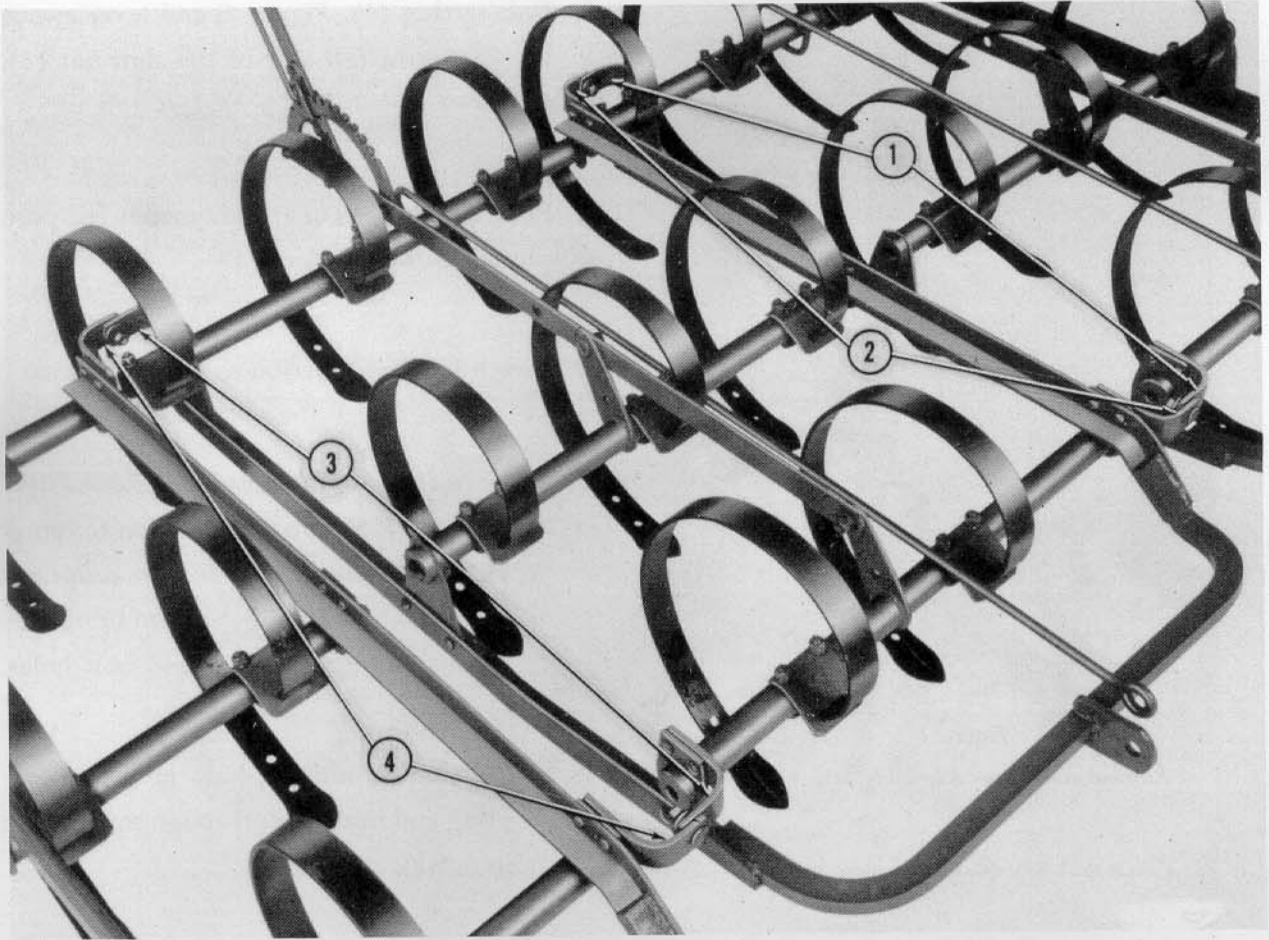

Figure 6
- a. Notice position of left hand section couplings (1), Figure 6, in relation to center section couplings (2). Section couplings with square bolt holes in them fit outside of the couplings with round bolt holes.
- a. Notice position of center section coupling (3), Figure 6, in relation to right hand section couplings (4).